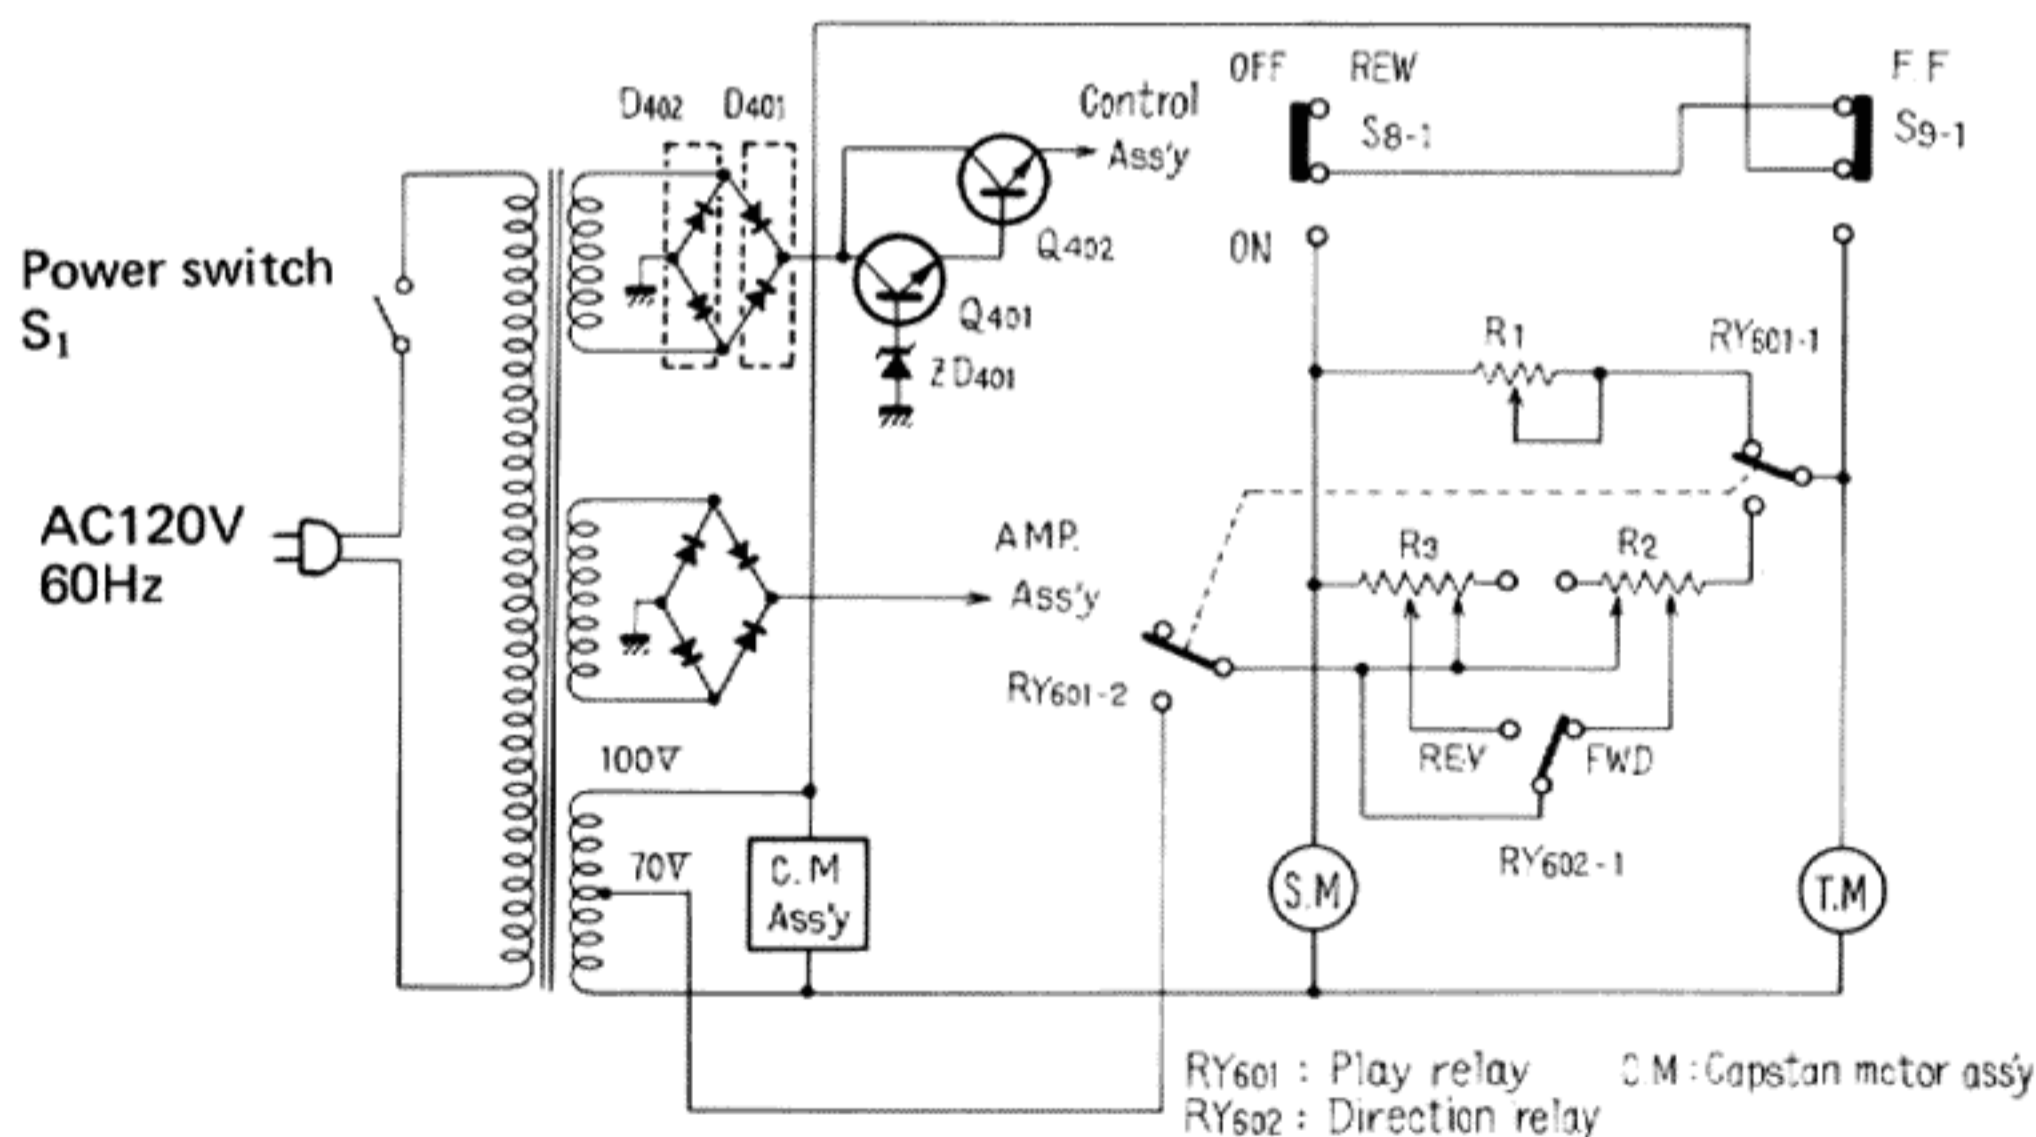

Fig. 1
When the power switch S_1 is switched on, AC100V is supplied to the capstan motor from the secondary side of the power transformer, and the motor begins to rotate. A DC voltage rectified in D_{401} , D_{402} , stabilized in the stabilizer formed by Q_{401} , Q_{402} and ZD_{401} , is supplied to the control circuit (Fig. 1).
Operation of brake solenoid SL_1 releases the brakes of the supply motor (SM) and take-up motor (TM). Operation of the pinch solenoid SL_2 causes the pinch roller to be pressed against the capstan. Operation of the play relay RY_{601} enables AC 70V from the secondary side of the power transformer (see Fig. 1) to be applied to the supply and take-up motors through slide resistors R_2 and R_3 .
2. As shown in Fig. 1, AC100V is applied to the supply motor via F.F. button S_{9-1} and Rewind button S_{8-1} , and tape rewind begins.